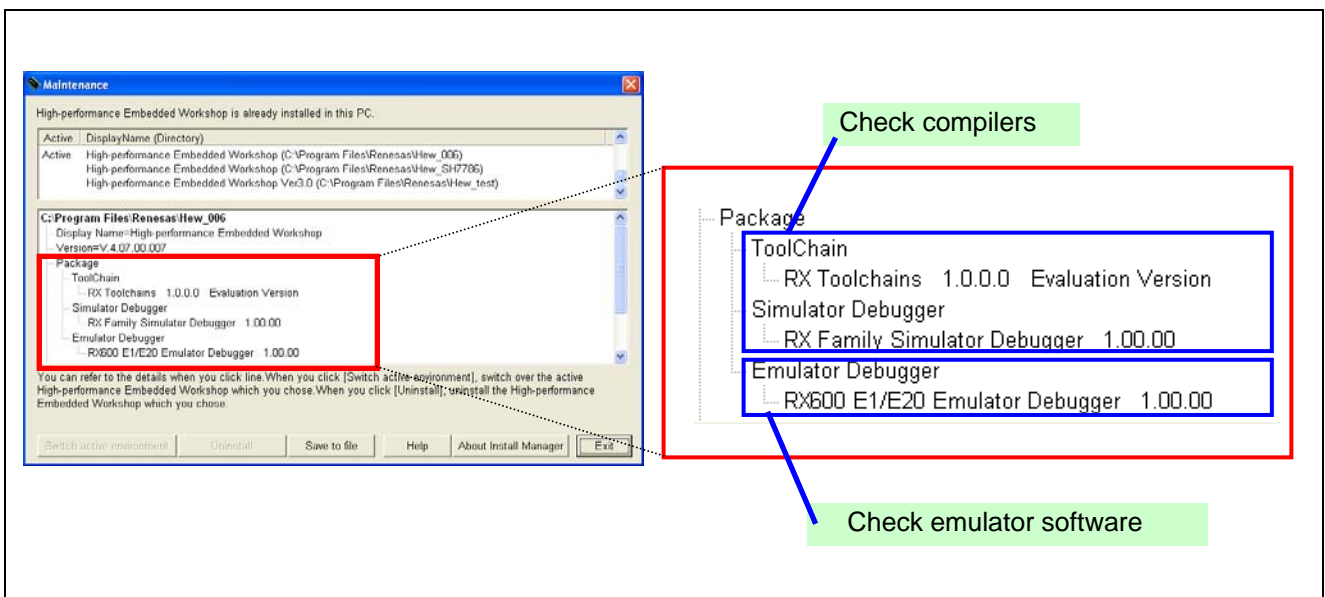

Figure 3.16 Checking the Products That Have been Installed
- (2) When [Multiple Install Manager] is started up, the [Maintenance] dialog box appears (Figure 3.16). Read the contents and check that all of the required products have been installed. If anything is missing, re-install it.